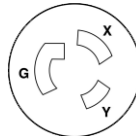

Figure 39 – L6-P20 Socket (US)
- i. For the L6-P20 Socket (US), there should be  $\sim 208 \text{ VAC} \rightarrow 240 \text{ VAC}$  across the X and Y slots at the wall socket (**See Figure 39**).